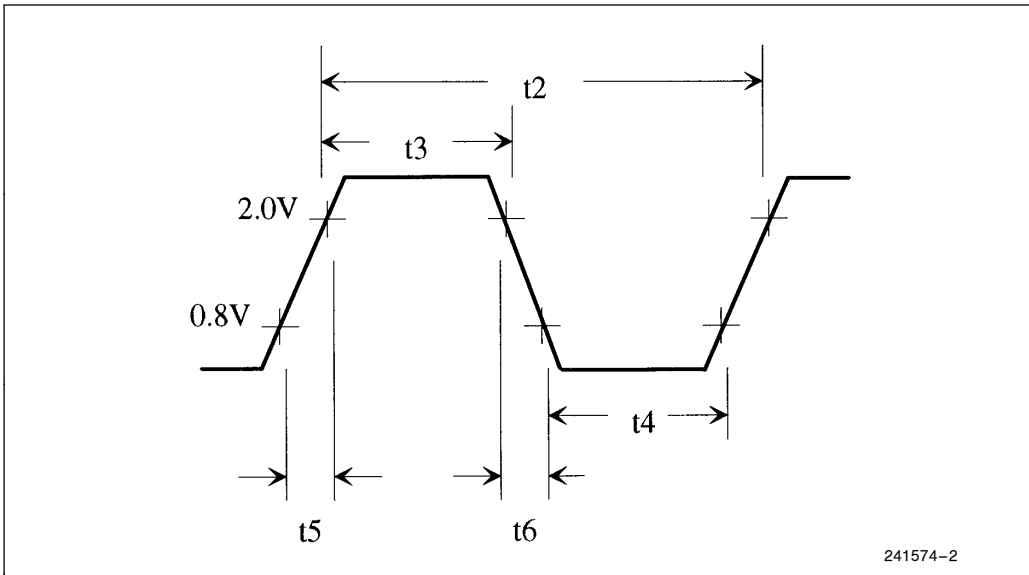

Figure 2. Clock Requirements for the Pentium® Processor and CPU-Cache Chip Set
- Symbols in Figure 2.
tem. System designers do not have to worry about ringback if the signal does not overshoot or undershoot, respectively. Figure 2 summarizes clock waveform requirements listed in Table 1.